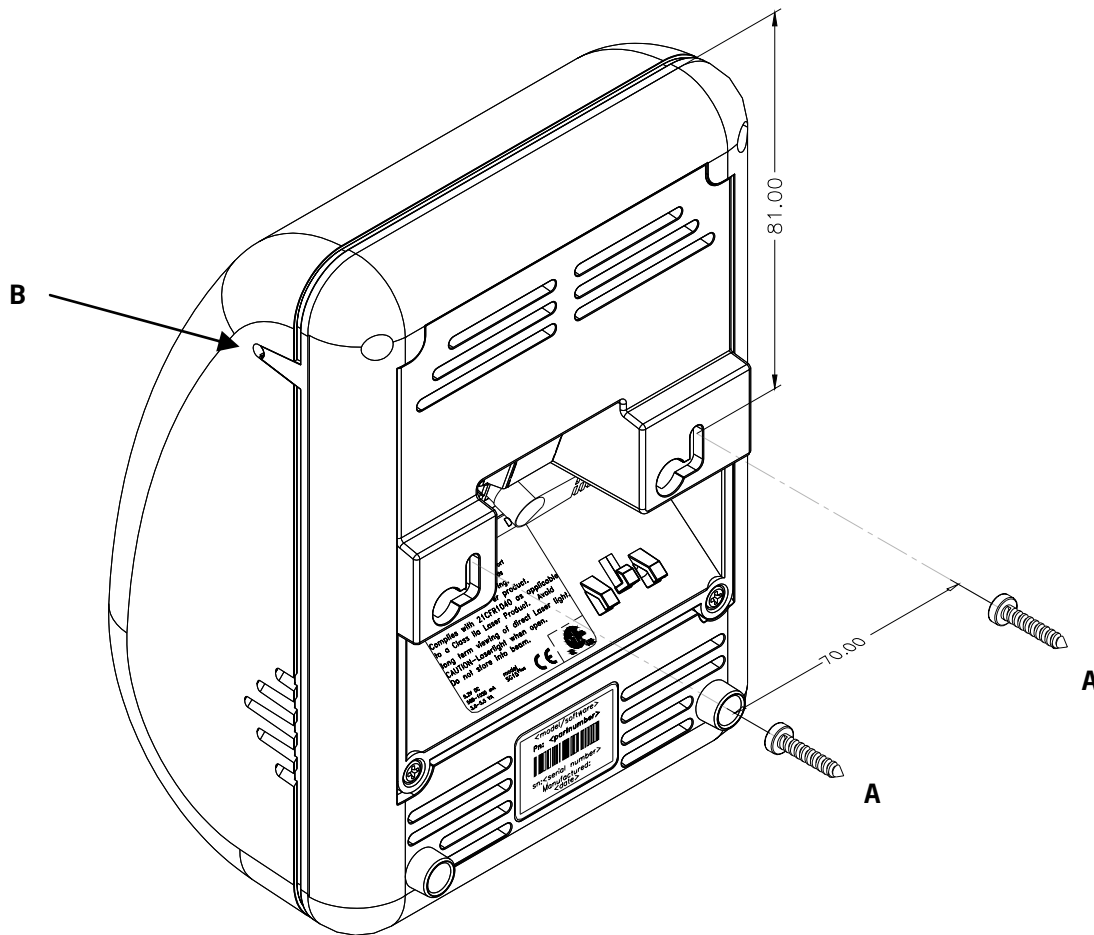

fig 3.1
3. Connect the power cable and the communication cable of the Shuttle+ (see figure 3.1 above).